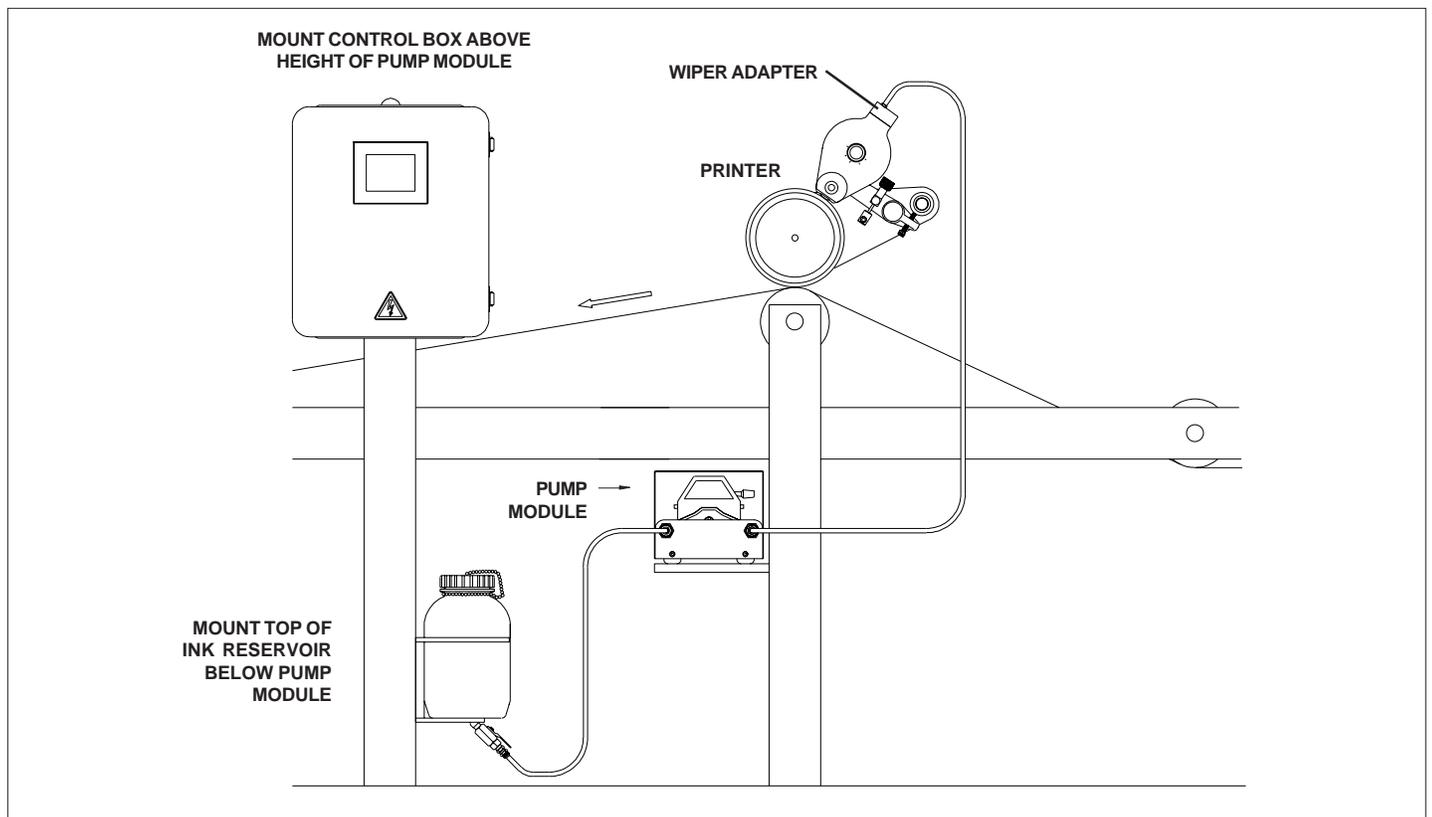

FIGURE 7
**1 - Mount the Ink Reservoir on a vertical surface with the top of the Ink Reservoir slightly below the bottom of the Pump Module and within close proximity of the same as shown in Figure 7 . *Mounting the Ink Reservoir below the vertical height of the Pump Module is a safety consideration and will prevent the ink in the Reservoir from draining out should an Ink Pump Tube failure occur.***